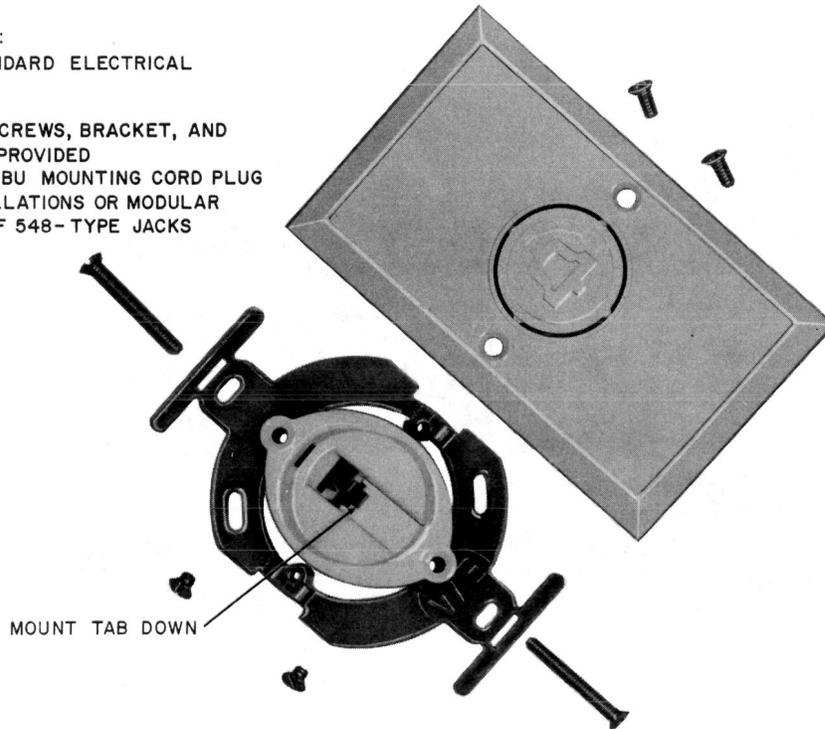

Fig. 2—625B Connecting Block (With Mounting Hardware)
- Block, Connecting, 625B (Fig. 2)
2.03 The **625B** connecting block (Fig. 2) includes the 625F connecting block, 65A faceplate package, and two mounting screws. It is intended for new installations or modular replacement of 548A jacks or 47F connecting blocks.
(b) **Flush-type:** Jack-opening oriented with spring contacts at the top and tab down (Fig. 2, 3, and 8).
3.03 625B Connecting Block: Mount the bracket on a standard electrical outlet box, 63B bracket, or directly to the wall (must have recessed area) using the mounting screws supplied (Fig. 2). Feed the station wire through the center mounting hole of the bracket and terminate the leads on the connecting block as shown in Table A. Mount the connecting block on bracket and fasten with the two screws supplied. Attach faceplate with the two screws supplied. ♦Where a KS-20502, L2 bracket is used, the 625F connecting block and rectangular faceplate mount directly on the KS-20502, L2 bracket. The bracket supplied with the connecting block is not used.♦